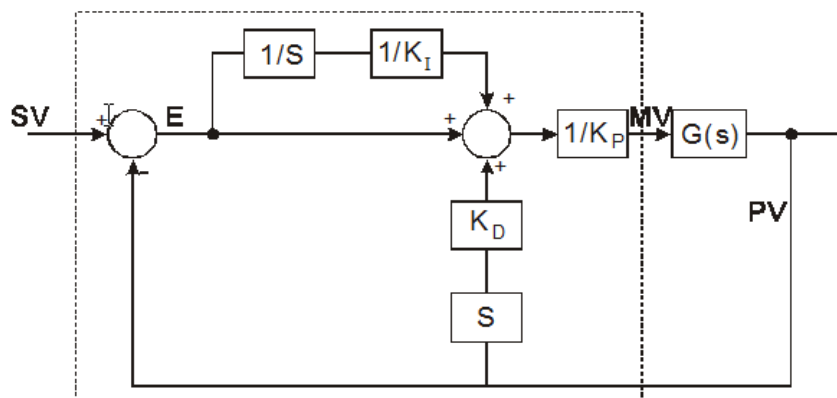

Figure 2 Control diagram for control mode 3/4 (S_3+4 is K3/K4.)
- Control diagram: In Figure 2, $1/K_I$ and $1/K_P$ refer to "divided by K_I " and "divided by K_P ". Because this control diagram is for temperature control, users have to use the instruction PID together with the instruction GPWM.